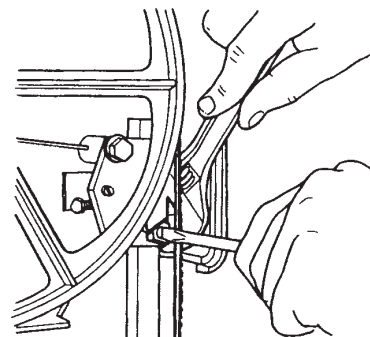

Fig. A-8
8. Loosen the 1/2" jam nuts on the two guide post adjusting screws (68), as seen in Fig. A-8, then proceed in this manner: